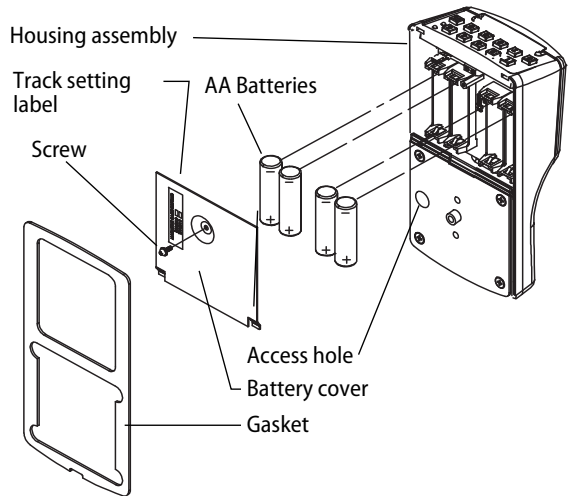

Figure 2 Installing batteries
- 1 Remove the gasket and battery cover from the rear of the housing assembly as shown in Figure 2.
- 5 Replace the battery cover. See Figure 2. Make sure that the tabs on the lower edge of the battery cover are hooked over the edge of the back plate and secure the cover with the screw.
- 6 Replace the gasket. See Figure 2. Make sure that it is inside the edge of the housing.